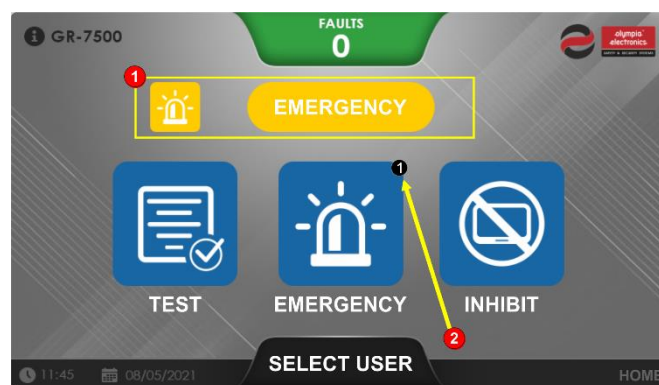

Figure 24
The “**EMERGENCY**” message on the home screen (Figure 24, ref 1) indicates that at least one point is in emergency mode and the exact number is displayed in the upper right corner of the relevant icon (Figure 24, ref 2).